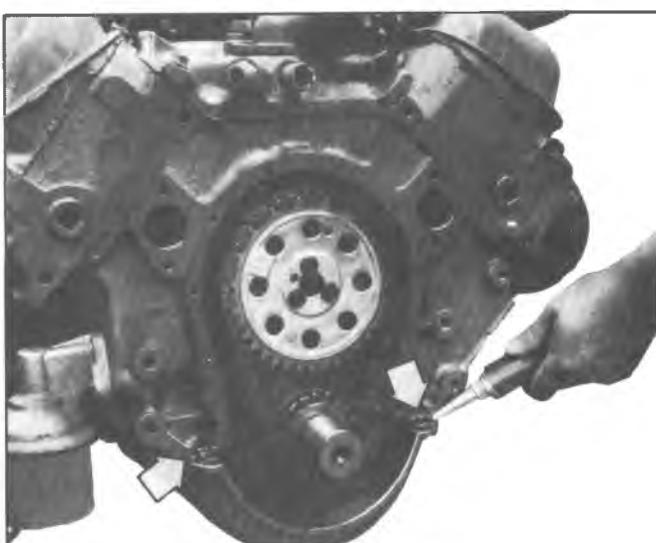

Fig. 20V—Applying Front Cover Sealer
5. Apply a 1/8 inch bead of silicone rubber sealer, part 1051435 (or equivalent) to the joint formed at the oil pan and cylinder block (fig. 20V).